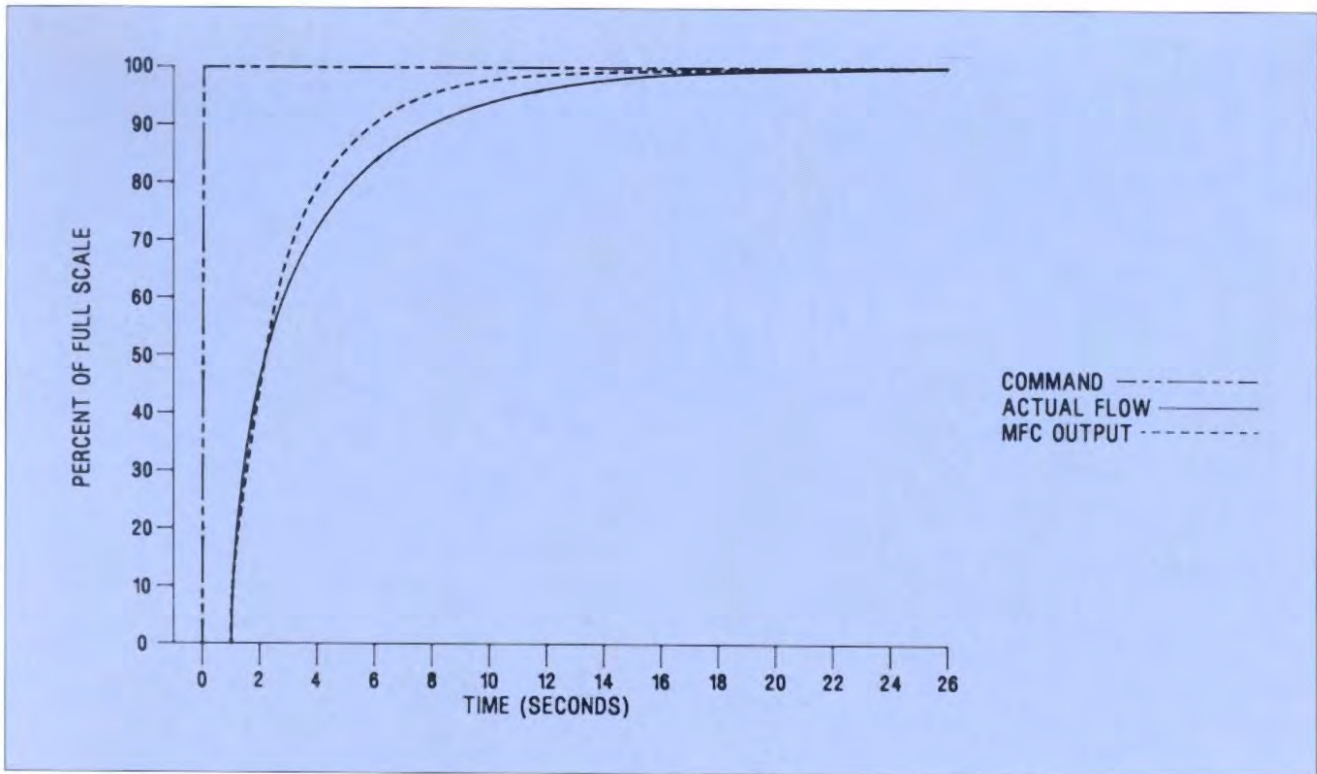

Figure 1-2 0-100% Setpoint Steps Soft Start Enabled
- Soft Start provides a flow ramping function which slows down the introduction of process gas for those processes which cannot tolerate rapid flow transition. Refer to section 2-7 and figure 1-2.